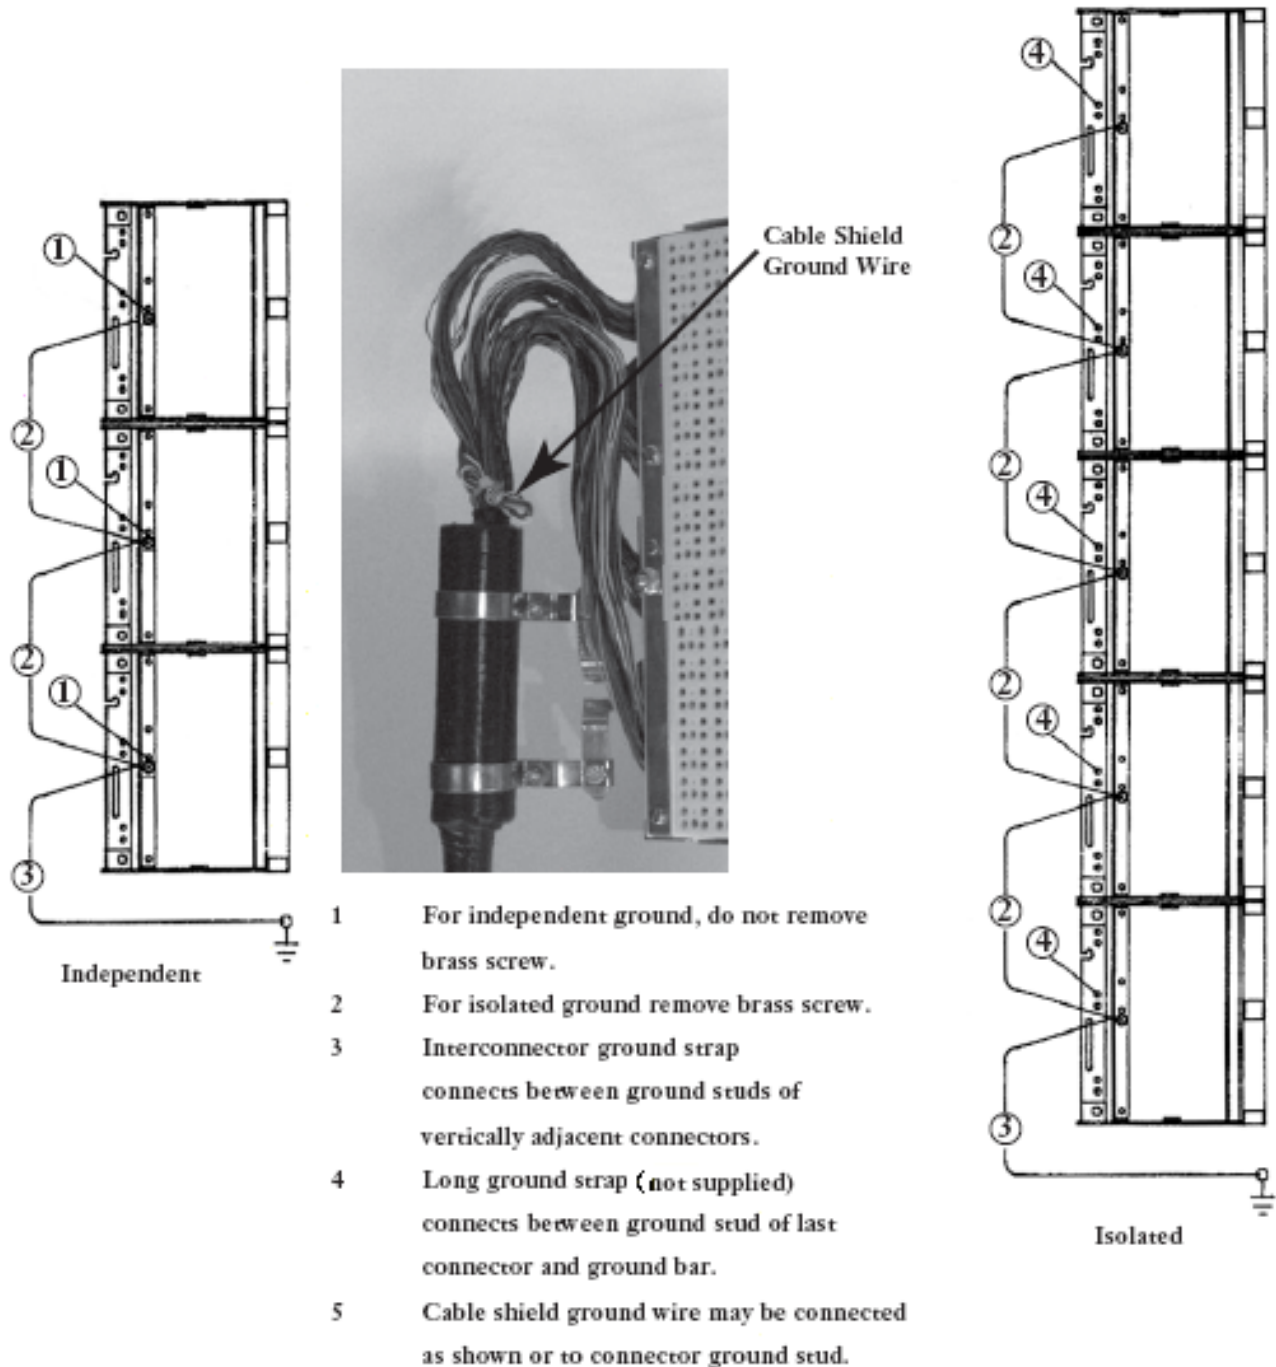

Figure 14
8.1 Grounding of the C-388 & CG-388 connectors can be easily accomplished by either the independent or the isolated grounding methods (Figure 14).